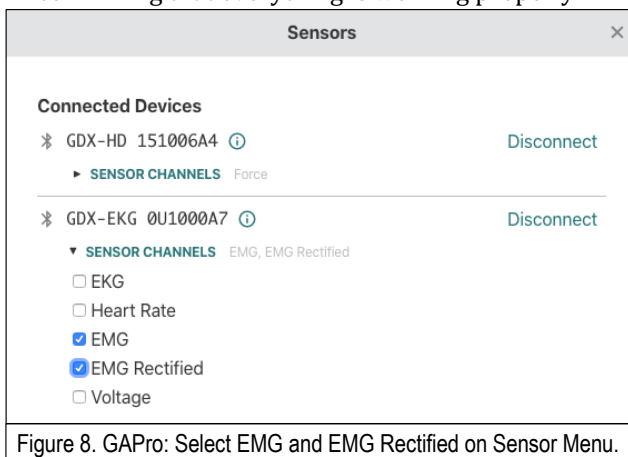

Figure 8. GAPro: Select EMG and EMG Rectified on Sensor Menu.
- Select both “EMG” and “EMG Rectified” instead of the default of “EKG” (Fig. 8).